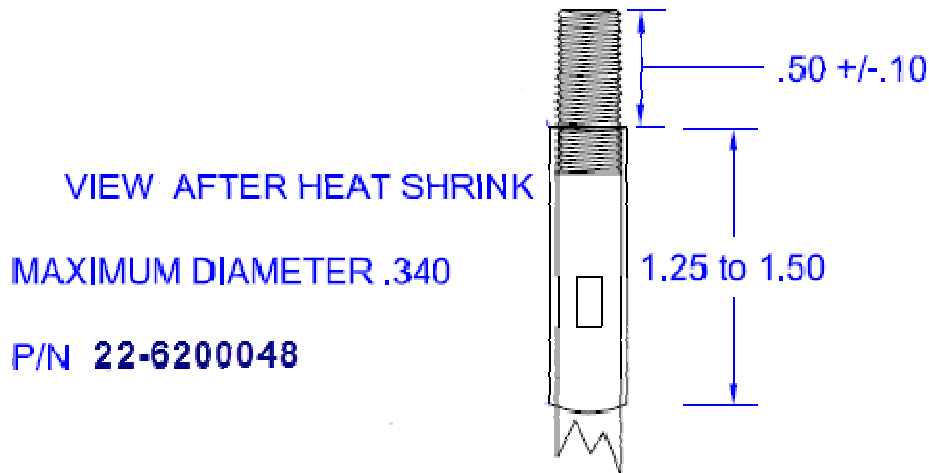

Figure 1
5. Repair or replace metal turbocharger support components as needed. There are no wear limits on the heat-shrink wear sleeve. The heat-shrink may be replaced if desired as shown in Figure 1.